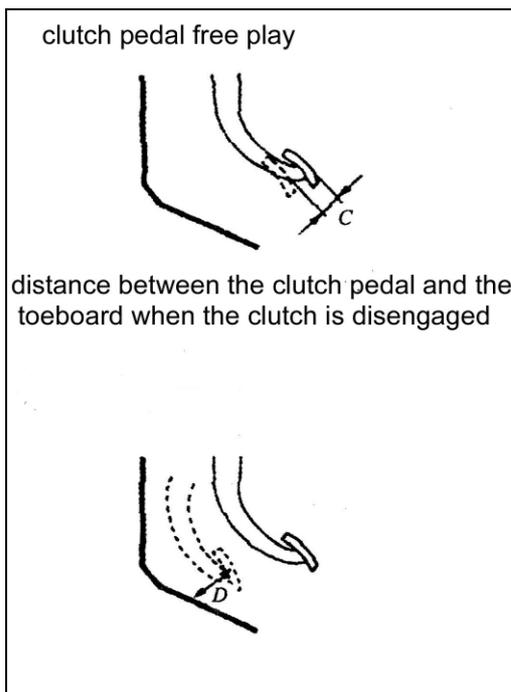

Fig.11-130
(6)After completing the adjustments ,confirm that the clutch pedal free play (measured at the face of the pedal pad) and distance between the clutch pedal (the face of the pedal pad)and the clutch pedal stopper or toeboard when the clutch is disengaged are within the standard value ranges as Fig.11-130.